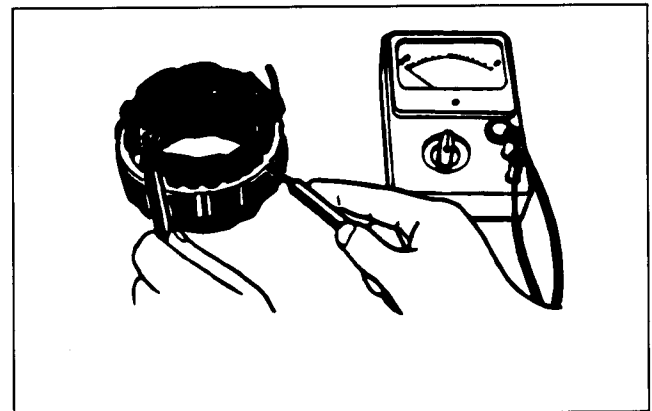

Figure 53
13. Check for continuity between each lead wire and stator core (Fig. 53). Replace the stator coil if there is continuity.